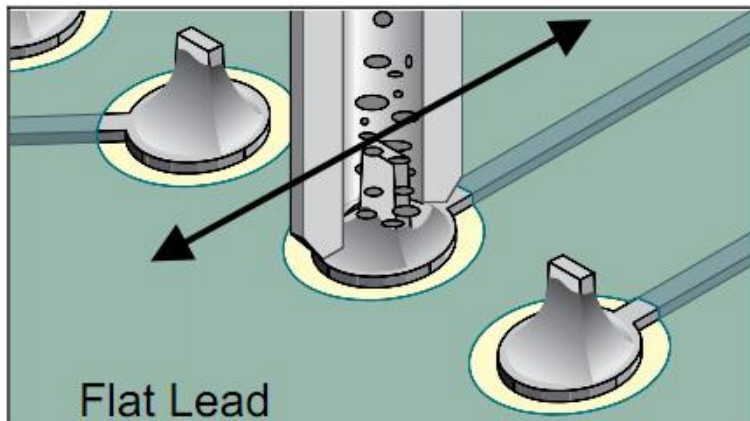

Figure 4 Move Lead & Apply Vacuum
- (h) For a flat lead, move lead back and forth; for a round lead, use a circular motion and apply vacuum while continuing lead movement. (See Figures 4&5)